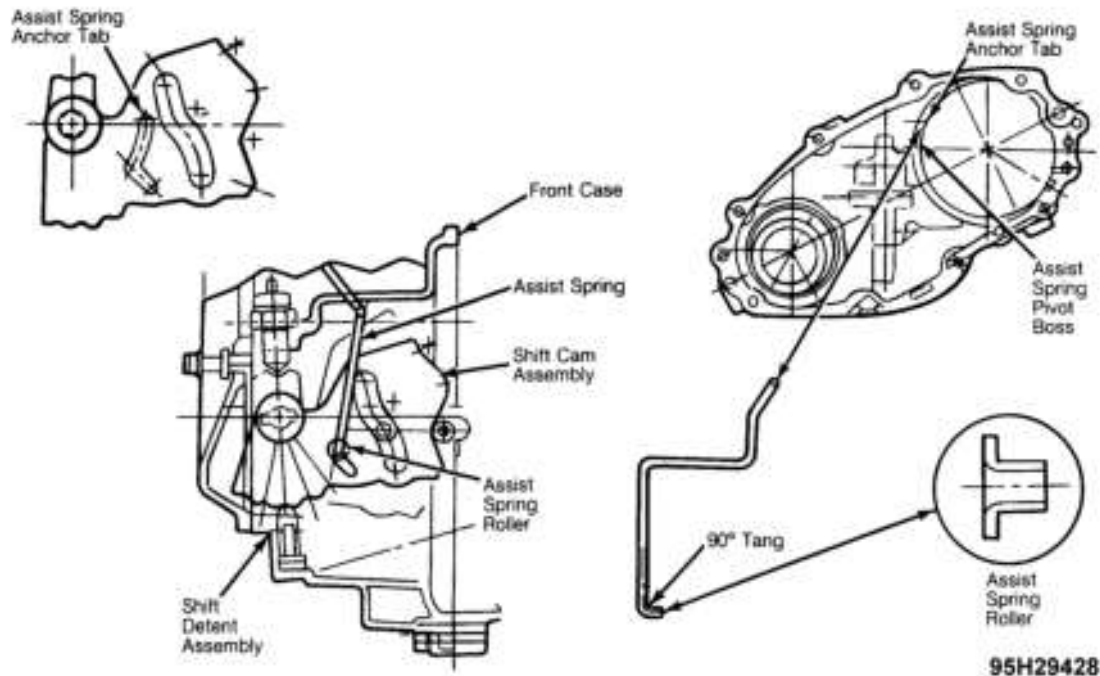

Fig. 18: Installing Assist Spring On Manual Shift Models
6. With shift cam, shift lever and snap ring installed in front case, position shift lever in "4WH" detent position (line scribed during disassembly). Place assist spring roller on 90 degree bend tang of assist spring. Insert roller into assist spring roller slot of shift cam. See **Fig. 18**.
7. Position middle section of assist spring into groove of front case pivot boss. Push in and lock the upper end of assist spring behind front case spring anchor tab. See **Fig. 18**.